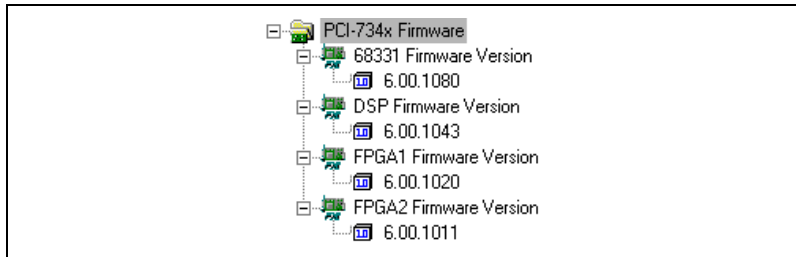

Figure 4-2. Firmware Tab
- The **Firmware** tab displays information about the firmware on the controller and provides an easy interface for downloading newly-installed firmware to the controller, as shown in Figure 4-2.